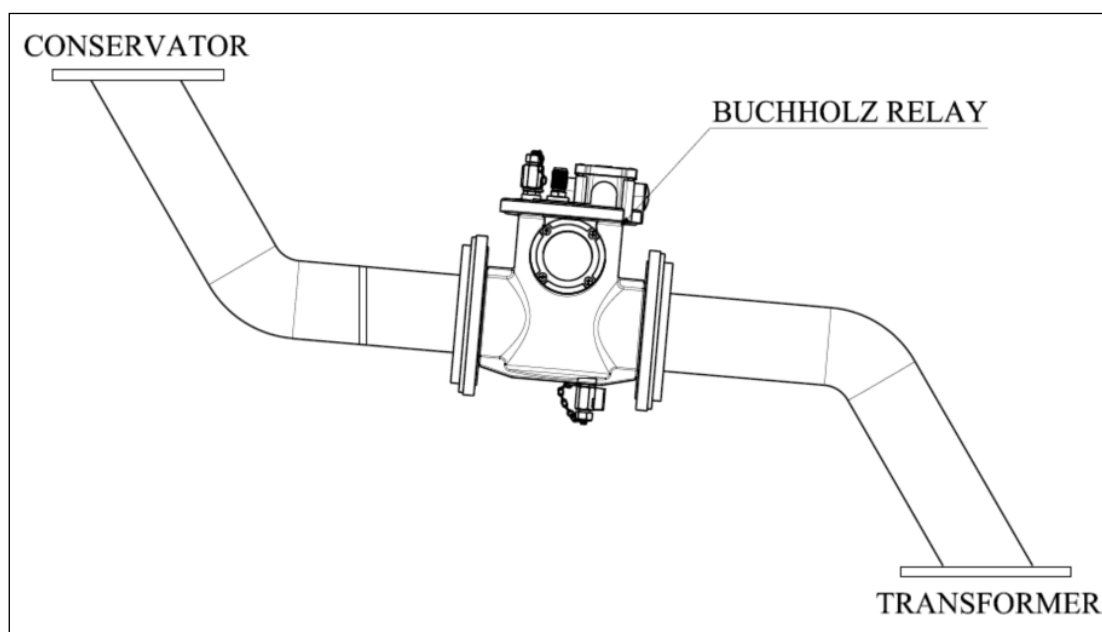

Fig. 2.13: Mounting of Buchholz Relay
- Hold BR in position with positive inclination of 3° to 7° (see Fig. 2.13 below) to the horizontal axis in the direction of arrow marked on the BR body, provide suitable gaskets and fit the BR with fasteners in the pipe line.